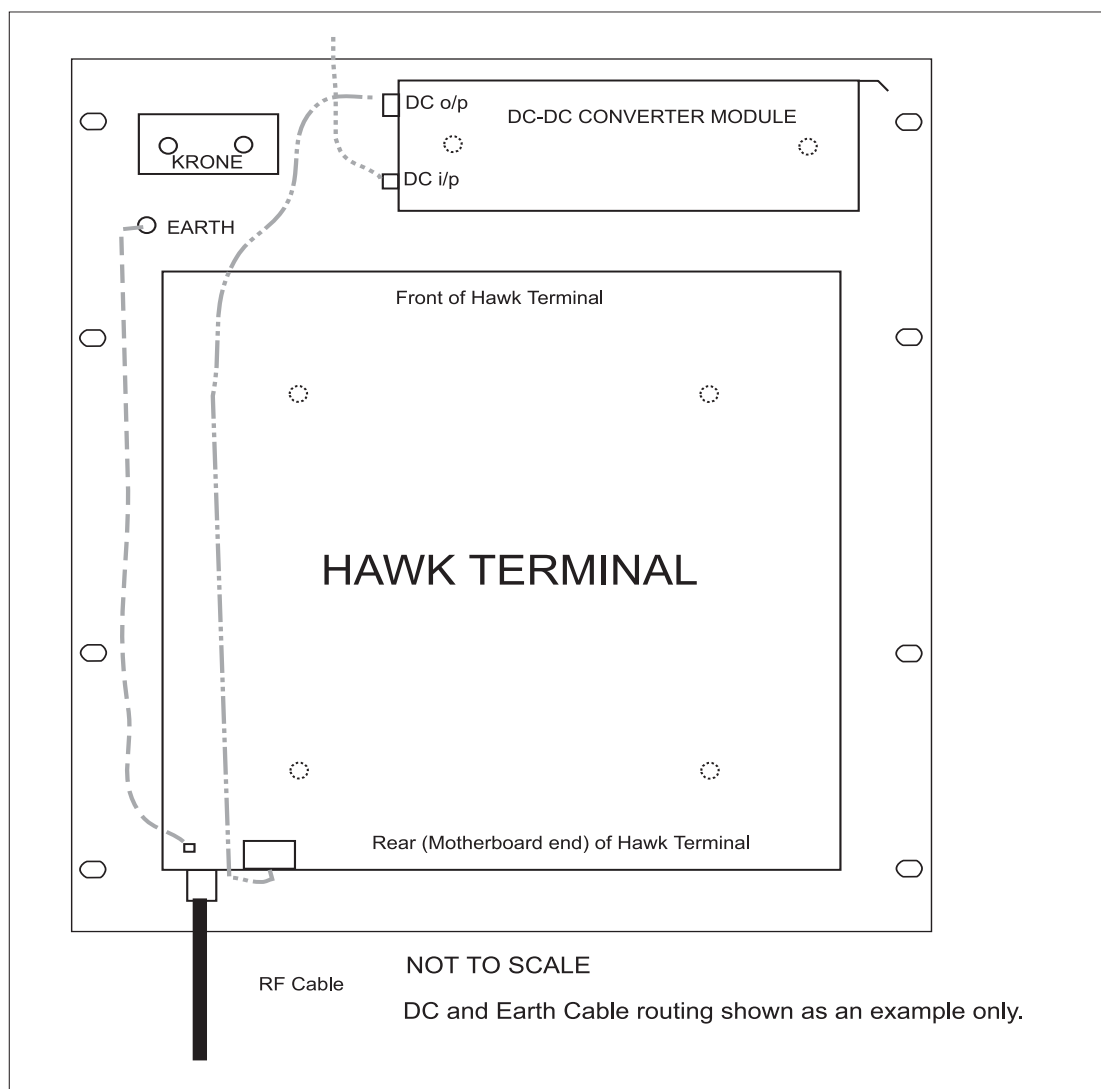

Figure 3.4: Installation of the Hawk Terminal and accessories onto the 12U Mounting Plate
The Terminal, DC-DC Converter module and Krone block can be attached as required to the plate as shown in Figure 3.4.
- > The Terminal and DC-DC Converter module are attached via the 6x shoulder screws and M5 washers supplied (refer to 'dotted' holes in Figure 3.4),
- > The Krone block can be attached via the 2x M5 pan-head screws and washers supplied (refer to Figure 3.4 for Krone block mounting position)
The Plate is attached to the 19" Rack System via the 'slotted' holes shown in Figure 3.4, using eight x M6 Screws/washers (not provided)